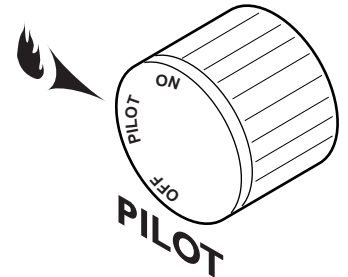

Figure 65 - Pilot Position
Depress and turn knob to pilot position to keep burner off while maintaining the pilot light. In this position, remote control will not be able to operate burner. See *Figure 65*.
The transmitter (See Figure 65) will operate the remote receiver from 1 ft. to a maximum of 30 feet. The distance is reduced when batteries are low or when the receiver is inside a metal enclosure.
2. During system reset, all features of the LCD DISPLAY will be visible. After one second, the LCD will be initialized. A typical reset display is shown in Figure 65. Note that the temperature scale is degree F.